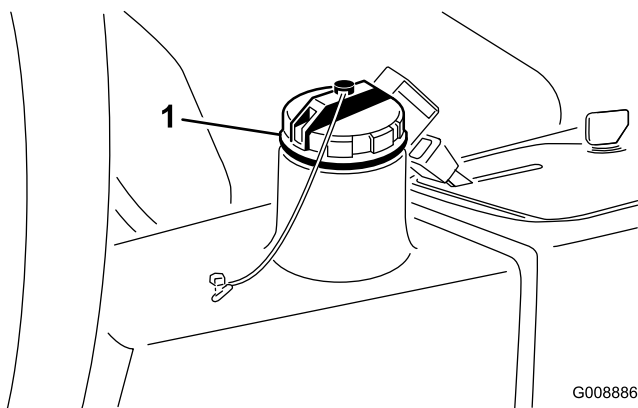

Figure 75
4. Fill the reservoir (Figure 75) with approximately 13.2 L (3.5 US gallons) of hydraulic fluid; refer to Checking the Hydraulic System \(page 28\).